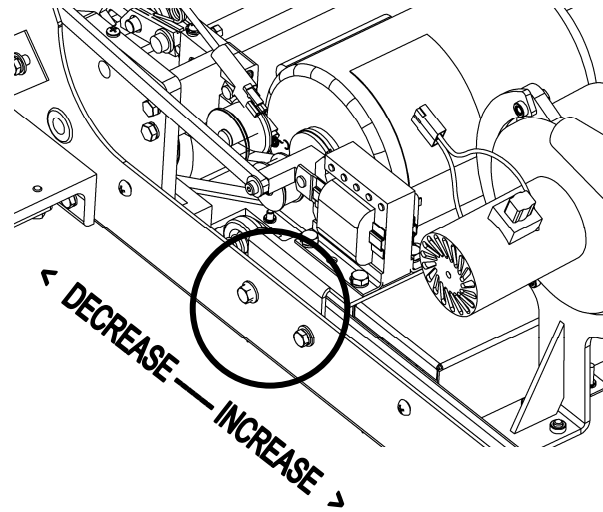

Figure 3-9
2. On each side of the machine frame, locate the buffer brush pressure screws. Figure 3-9 shows the screws on the side near the waste tank.